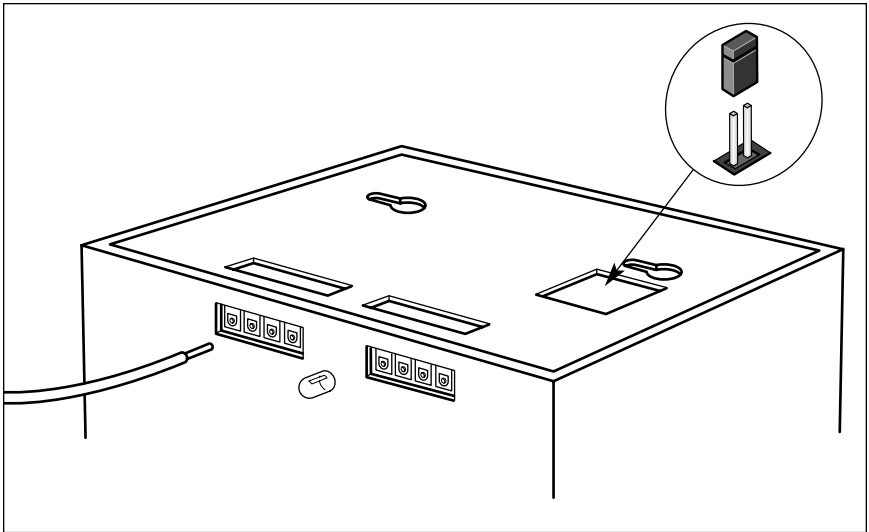

Figure 5. Jumper location
1. Using a needle nose pliers, remove the RUN/PROGRAM jumper from the bottom of the controller. Refer to Figure 5 for the location of the jumper.
1. Remove the jumper from the underside of the controller. Refer to Figure 5 on page 7 for the location of the jumper.
1. Remove the RUN/PROGRAM jumper from the bottom of the controller. Refer to Figure 5 on page 7 for the location of the jumper.